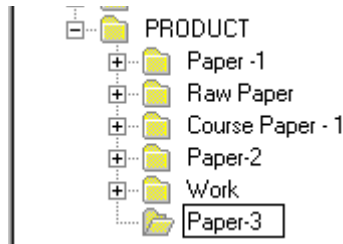

Figure 18. Naming the New Specification
4. Rename the new folder, for example: **Paper-3**, Figure 18.